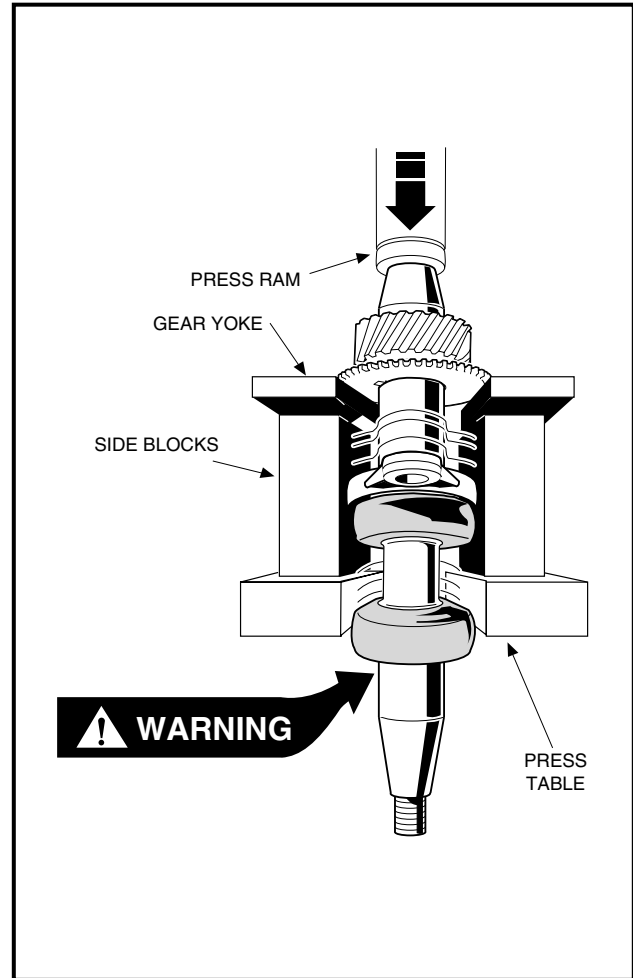

Figure 13-77 Remove Helical and Spur Gears
3. Position the gear yoke with the side blocks positioned as close to the crankshaft as possible (Figure 13-77, Page 13-37).
4. Using a press, push on the end of the crankshaft to pull the spur gear and the helical gear off the crankshaft (Figure 13-77, Page 13-37). **See following WARNING and CAUTION.**